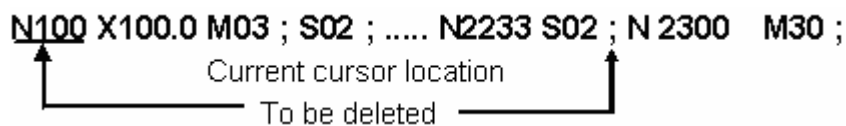

Fig. 10-1-1-7
word of the multiple blocks to be deleted, e.g. **S02** (as Fig.10-1-1-7 above), press  key to delete the blocks from the current cursor location to the address specified.
- a) Enter the program edit page(as Fig.10-1-1);